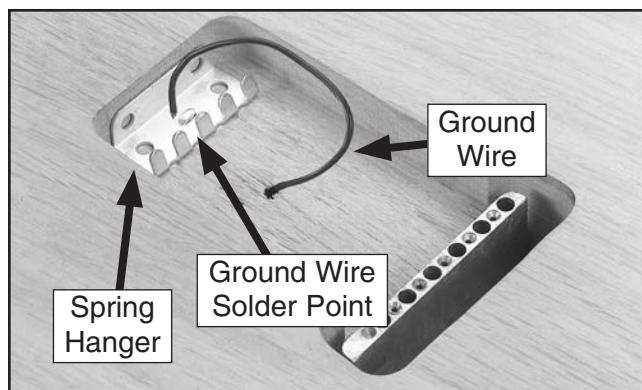

Figure 22. Spring hanger placement.
3. Turn the guitar body over and place the spring hanger in the cavity as shown in **Figure 22**.
5. Clean the spring hanger solder point to remove grease and dirt, then solder the black ground wire to the spring hanger as shown in **Figures 22 & 23**.